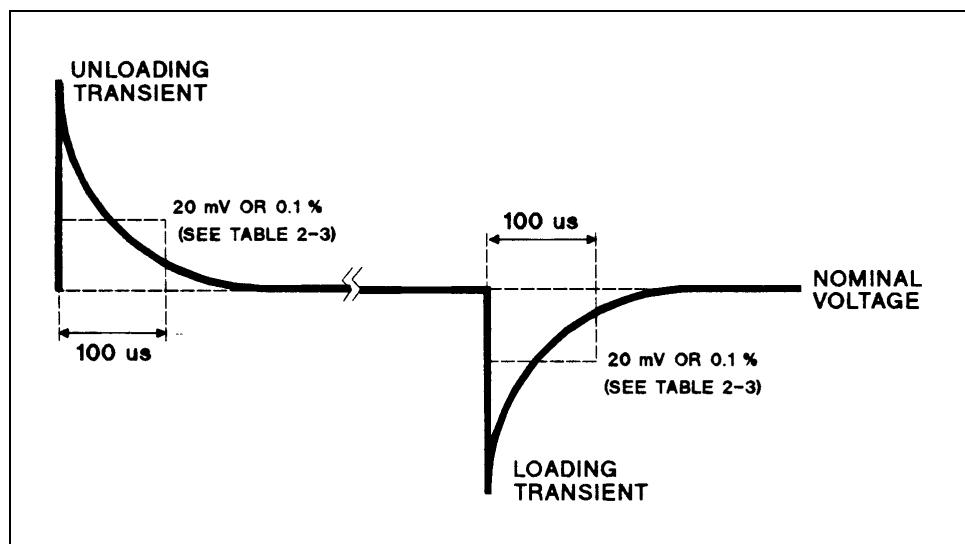

Figure 2-2. Transient Response Wavetform
- f. Adjust the oscilloscope for a waveform similar to that in Figure 2-2.